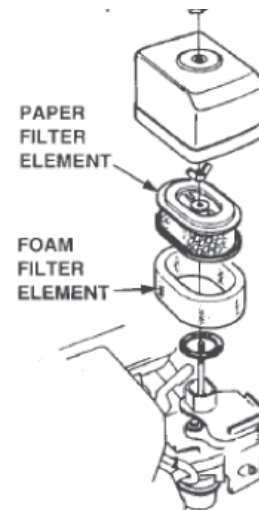

Figure 14. Engine Air Cleaner
1. Remove the air cleaner cover and foam filter element as shown in Figure 14.
2. Tap the paper filter element (Figure 14) several times on a hard surface to remove dirt, or blow compressed air [not exceeding 30 psi (207 kPa, 2.1 kgf/cm²)] through the filter element from the air cleaner case side. NEVER brush off dirt. Brushing will force dirt into the fibers. Replace the paper filter element if it is excessively dirty.